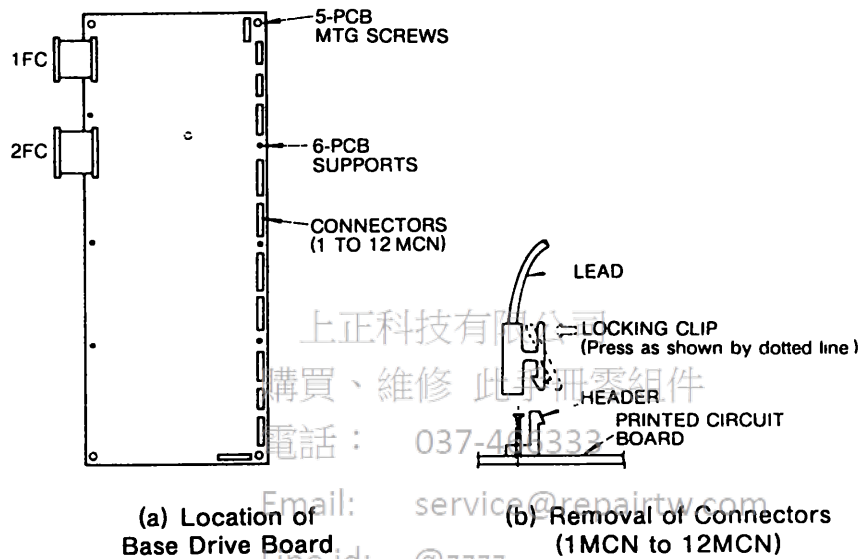

Fig. 9.3 Removal of Base Drive Board
(1) Removal Procedures (Fig. 9.3)